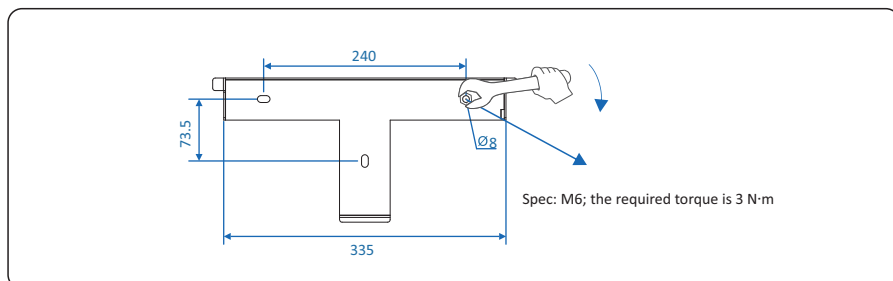

Figure 4.13 Installing the rear panel
**Step 5** Align the rear panel with the holes, insert expansion bolts into the holes through the rear panel, and tighten the expansion bolts to a torque of 3 N·m using a torque wrench, as shown in Figure 4.13.